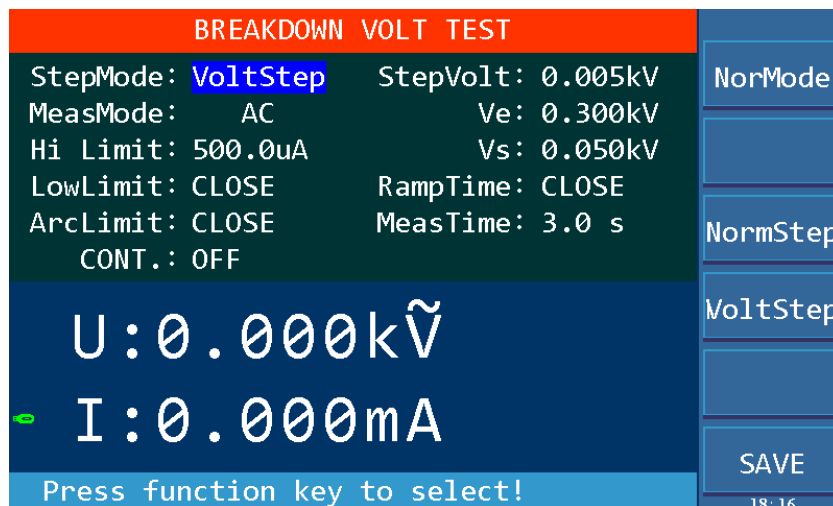

Figure 4-21
6. 2. Press the F1 key , select the test mode of BDV(Break Down Voltage), press the **【TEST】** key to enter the test interface, as shown in Figure 4-21.